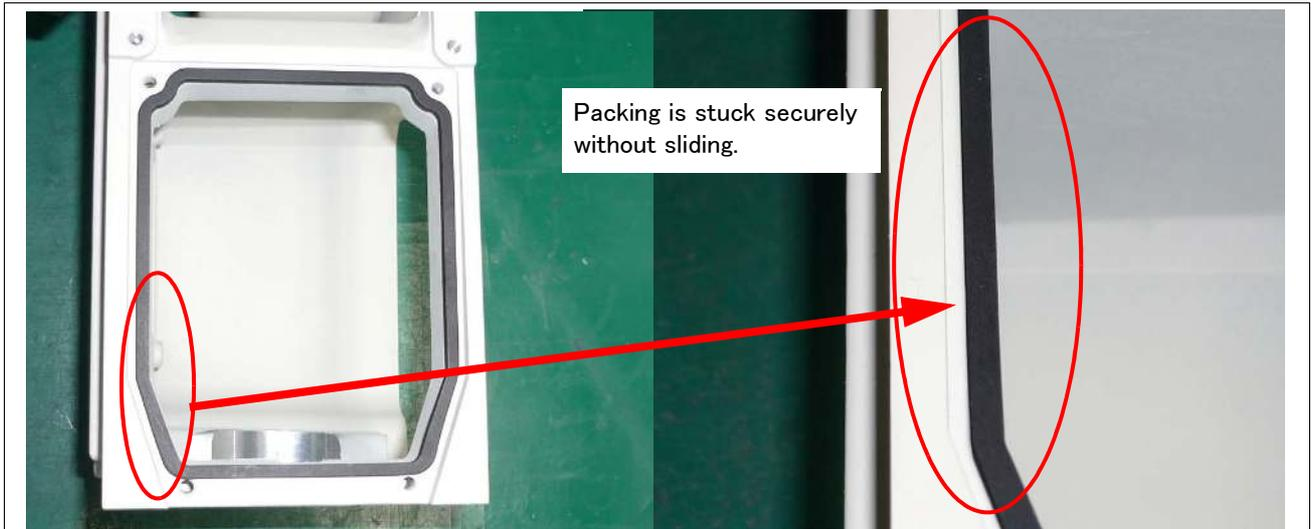
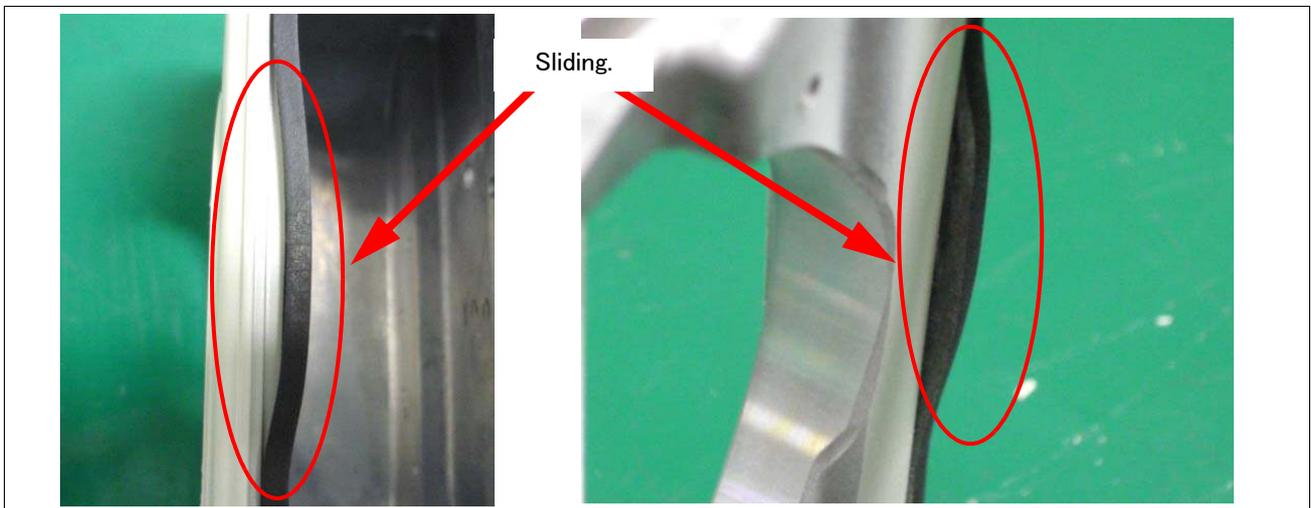

Fig.5-5 : Example of sticking packing (good example)
Fig.5-6 : Example of sticking packing (bad example)
- 2) The sticking surface of packing is double-coated adhesive tape. Referring to "Fig.5-5 : Example of sticking packing (good example)" and "Fig.5-7 : Sticking the cord-like packing", and stick the packing in line with form . Be careful for the packing not to slide. The example of unsuitable packing slid is shown in "Fig.5-6 : Example of sticking packing (bad example)".